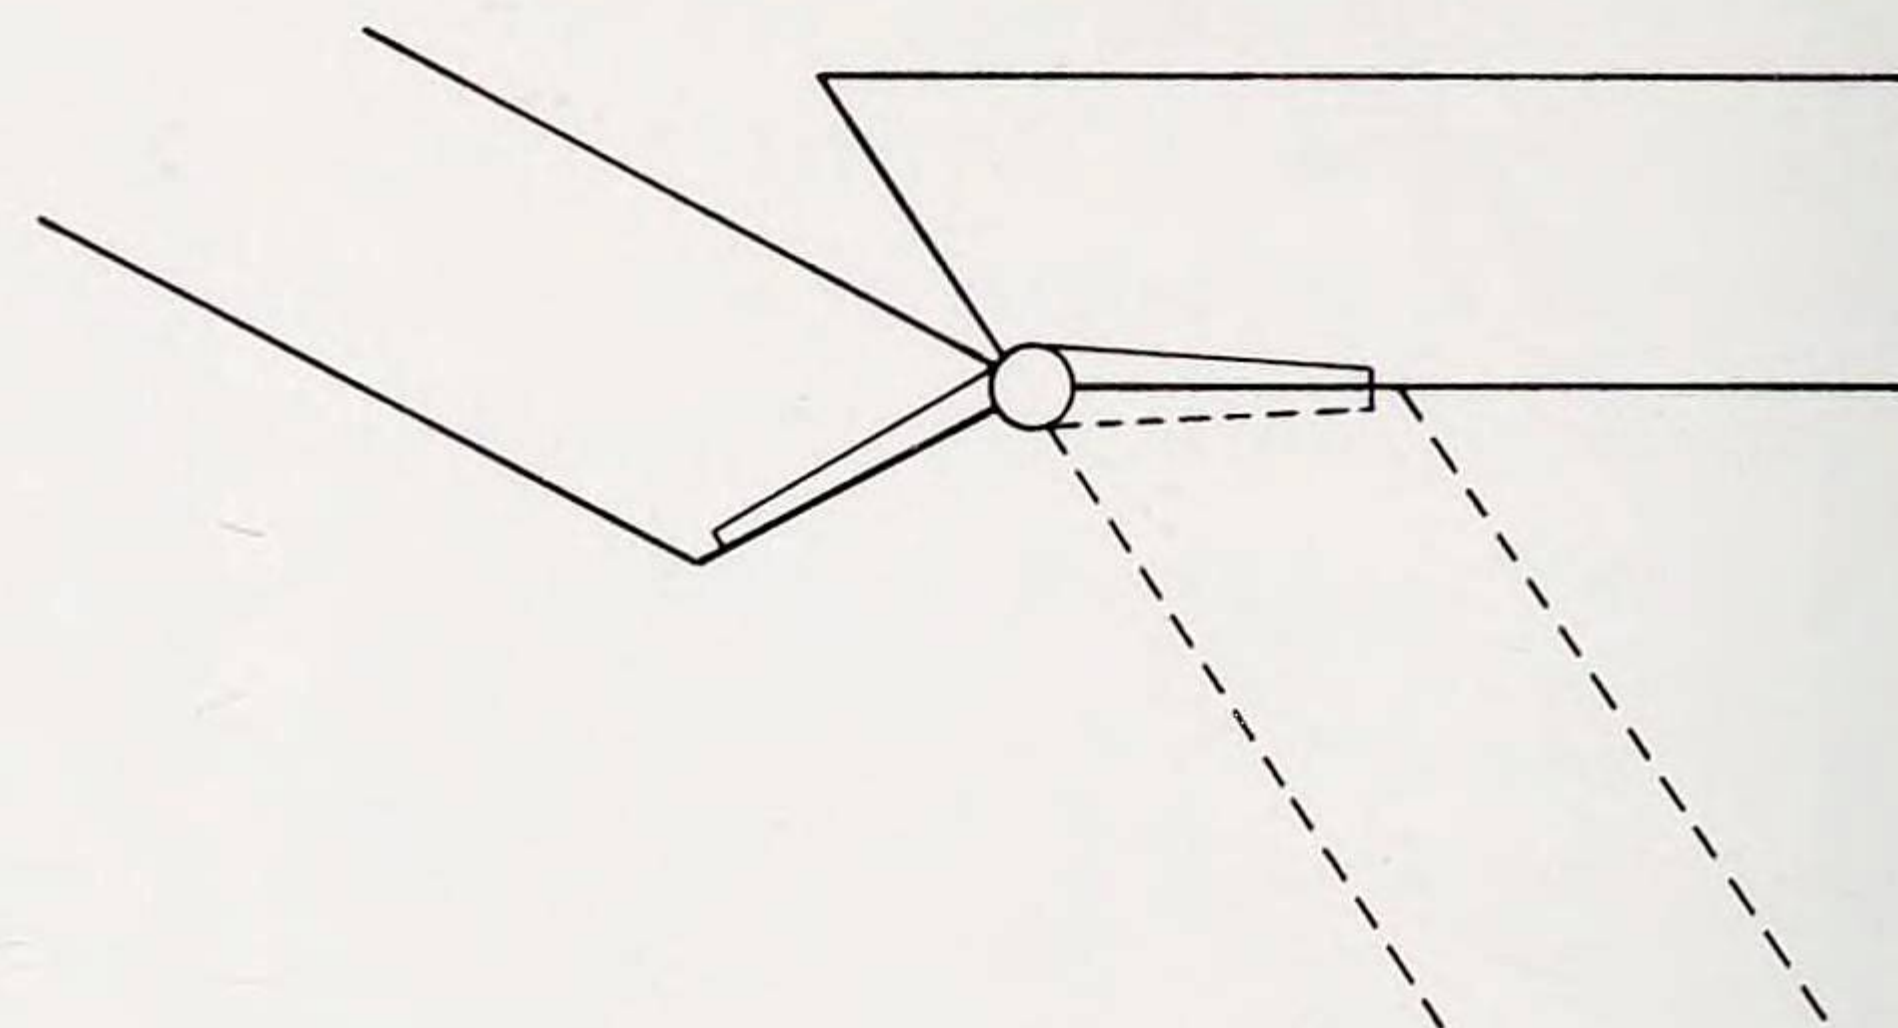

Fig. 5 The position of the piano hinge between the door and the triangular cabinet
8. Now make the two doors (Fig. 5). The photograph shows the use of butt hinges, but you could use a piano hinge as shown here since it is neat and gives several screw positions for fixing.